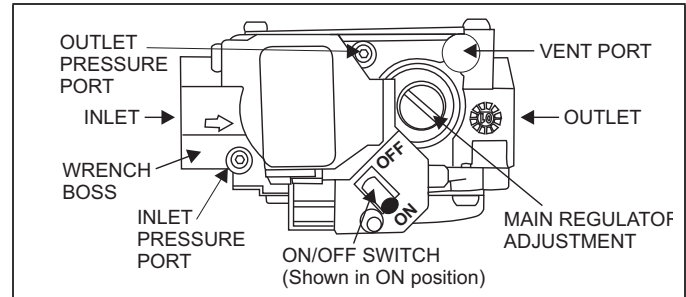

FIGURE 37: Gas Valve
Inlet and manifold gas pressure may be measured by connecting the "U" tube manometer to the gas valve with a piece of tubing. Follow the appropriate section in the instructions below. Refer to Figure 37 for the locations of the pressure ports on the gas valve.
Connect the positive side of the manometer to the IN P Tap on the gas valve. Do not connect any tubing to the negative side of the manometer, as it will reference atmospheric pressure. Refer to Figures 37 and 38 for connection details.
Connect the positive side of the manometer to the OUT P Tap on the gas valve. Do not connect any tubing to the negative side of the manometer, as it will reference atmospheric pressure. Refer to Figures 37 and 38 for connection details.
1. Refer to Figure 37 for location of pressure regulator adjustment cap and adjustment screws on main gas valve.